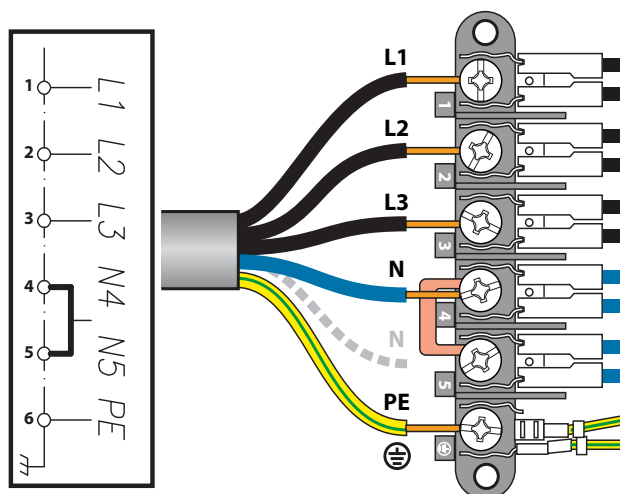

Fig.10.
3. Unscrew nut 'F' (Fig.10) on the pilot gas tube
4. Remove the nozzle 'G' (Fig.10) and replace it with the one for the type of gas chosen